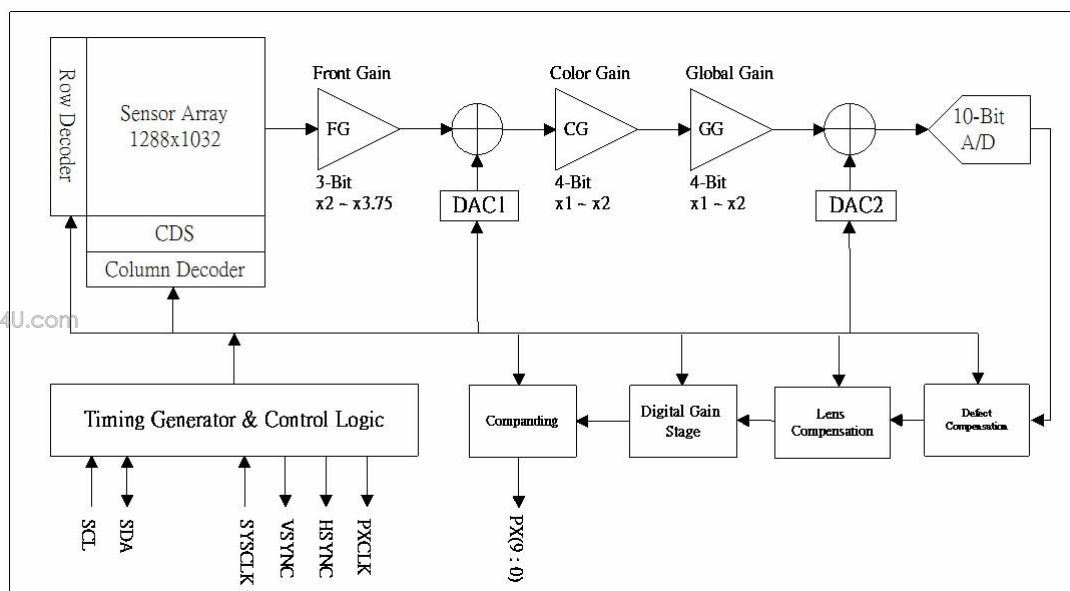

Figure 3.1 Shows the PAS5101CS sensor block diagram
The PAS5101CS is a 1/3" CMOS imaging sensor with 1280 (H) x 1024 (V) physical pixels. The active region of sensor array is 1288 (H) x 1032 (V) as shown in Figure 3.1. The sensor array is covered with Bayer pattern color filters and μ -lens. The first pixel location (0,0) is programmable in 2 direction (X and Y) and the default value is at the left-down side of sensor array.